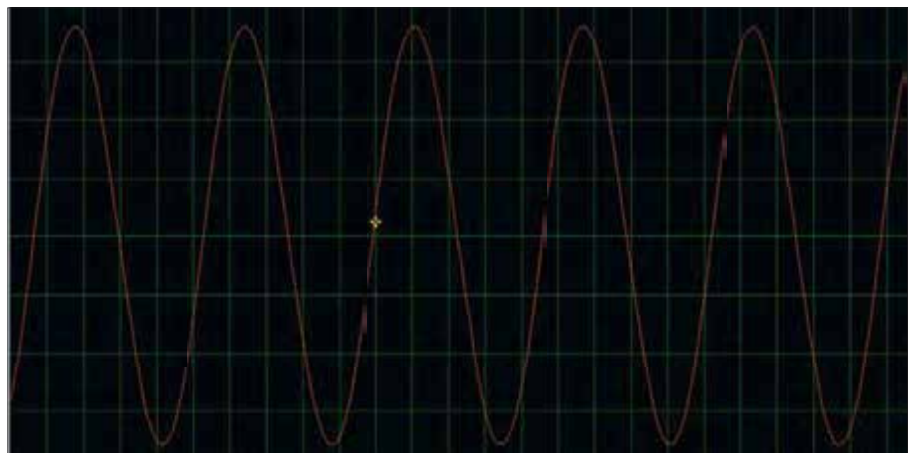

Fig.14. Turning up the low-pass filter resonance causes it to self-oscillate producing a sine wave with less than 5% distortion.
- Self-oscillating at high resonance settings creating a pure sinewave oscillator (Fig.14 and 15)